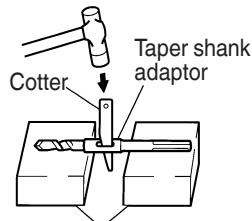

Fig. 15
- (2) Turn the power on and drill a base hole.
- (3) After cleaning out dust with a syringe, attach the plug to the anchor tip and drive in the anchor with a manual hammer.
- (4) To remove the drill bit with taper shank, insert a cotter into the slot of the taper shank adaptor, place supports under the Rotary Hammer and tap the cotter with a manual hammer. (Fig. 15)